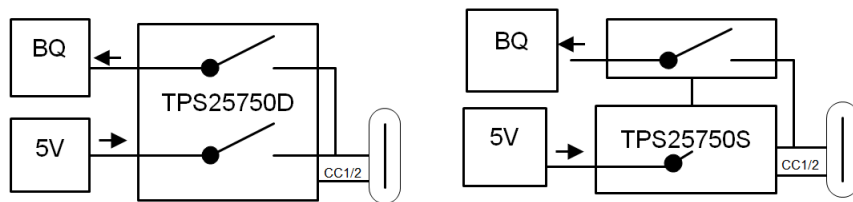

图 10-3. Power Source and Sink configuration with 5V DC and Battery Charger (BQ)
图 10-3 shows the configuration where the a 5-V DC is connected to the source path and a Battery Charger (BQ) is connected to the sink path.